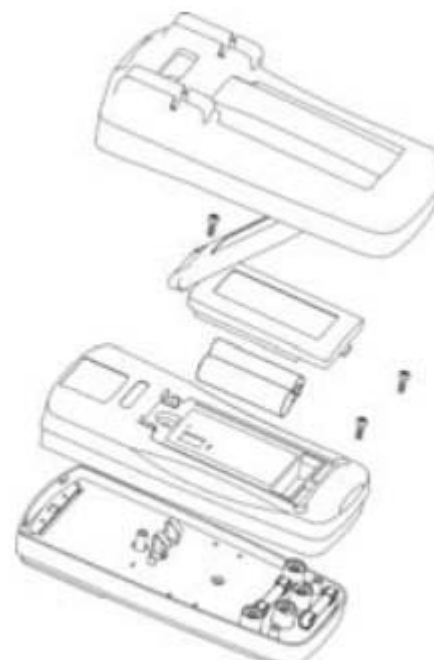

Figure 13
2. Replacements (see Figure13)